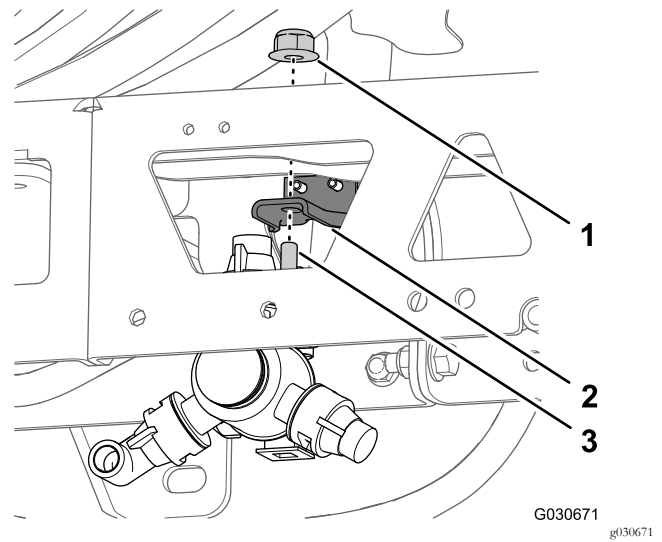
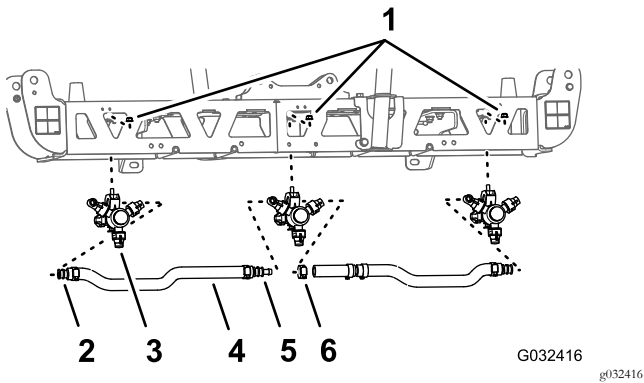

Figure 71
Figure 70
1. At the center boom section, remove the flanged locknut that secures the sprayer nozzle to the nozzle mount (Figure 70 and Figure 71).
- Remove the nozzle from the center boom section (Figure 70 and Figure 71).
- Remove the hoses (3/4 inch inside diameter), barbed-hose shanks, clamps and barbed T-fitting from the center boom section (Figure 70).